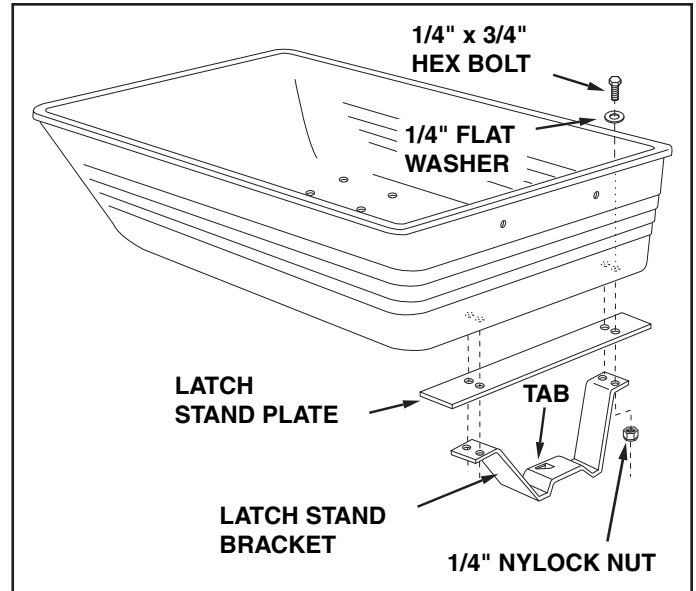

FIGURE 6
9. Assemble the latch stand plate and the latch stand bracket to the bottom of the poly tray using four 1/4" x 3/4" hex bolts, 1/4" flat washers and 1/4" nylock nuts. The aligning tab on the bottom of the latch stand bracket must be towards the rear of the cart. **Tighten**. See figure 6.